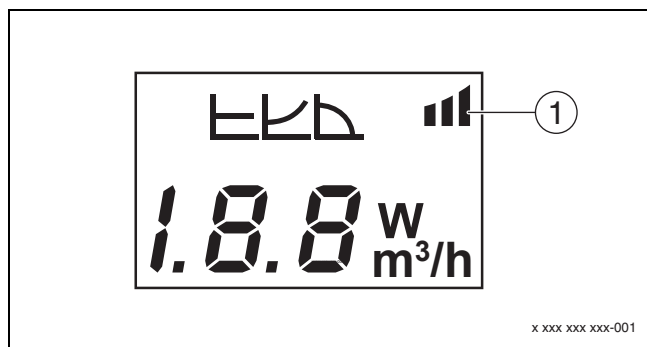

Fig. 8 Display
2. To set the desired operating mode, press the switch for at least 0.5 seconds until the symbol for the external target value (→ Figure 8 [1]) flashes.